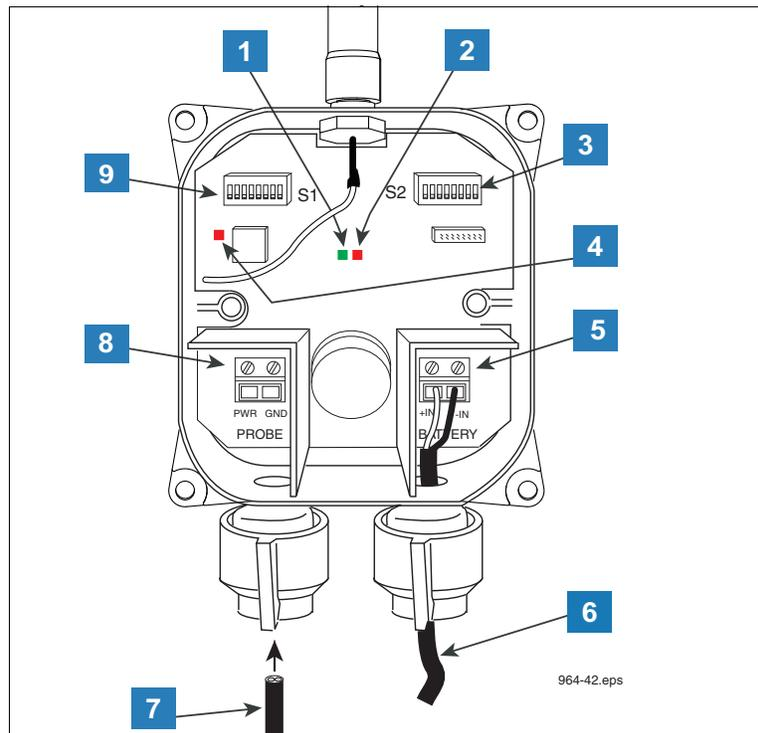

Figure 19. Wiring the Transmitter
- All sensor cables connect to the PROBE terminal block the SAME WAY - the white wire to the PWR terminal and the black wire to the GND terminal as shown in Figure 19.
LEGEND FOR NUMBERED BOXES IN Figure 19